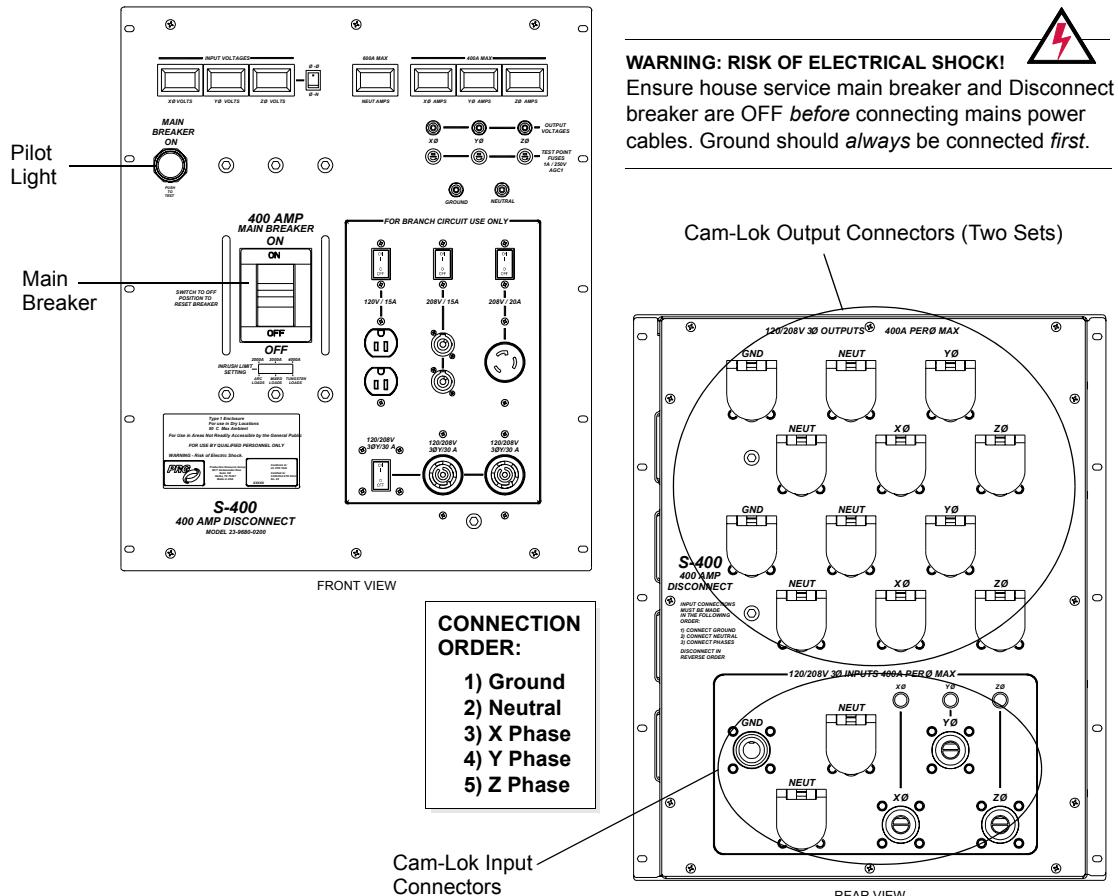

Figure 4: Turning Off Main Breaker and Connecting Cam-Loks
Step 5. Ensure that Main Breaker is switched OFF (**Figure 4**).
- Step 4. If meter readings are nominal, switch Main Breaker to the ON position (**Figure 4**).
Note: The Pilot Light indicates when Main Breaker is energized (**Figure 4**). Press to test LED before Main Breaker is "ON."